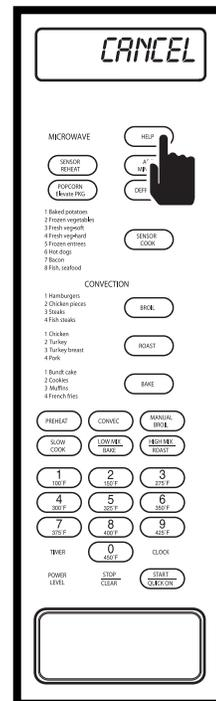

Figure 3-63.
4. For this example, to switch the Child Lock Feature off, press the HELP key again and “TO - CANCEL - LOCK - PRESS - CLEAR” will flash on display (See Figure 3-63).